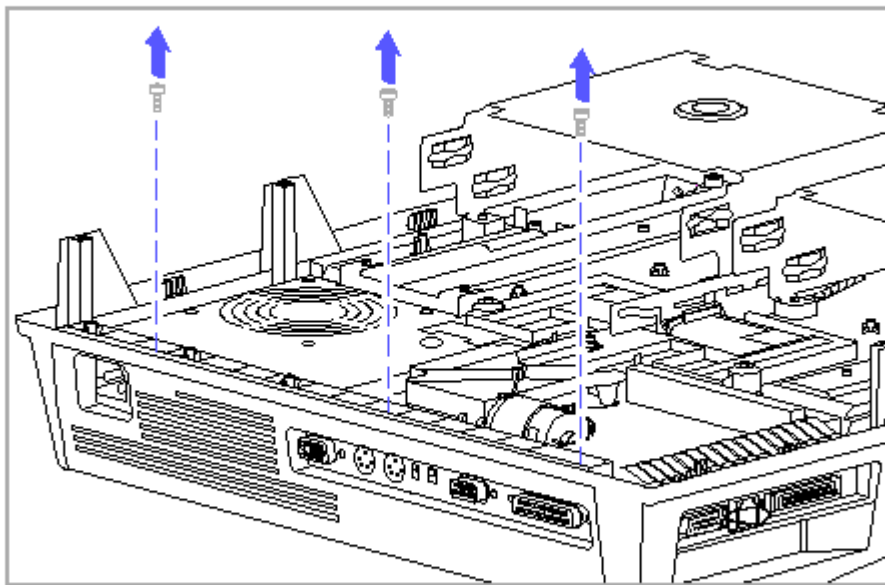

Figure 9-13. Removing the Power Supply Bezel Screws
4. Remove the three screws that attach the power supply bezel to the back edge of the top cover (Figure 9-13).